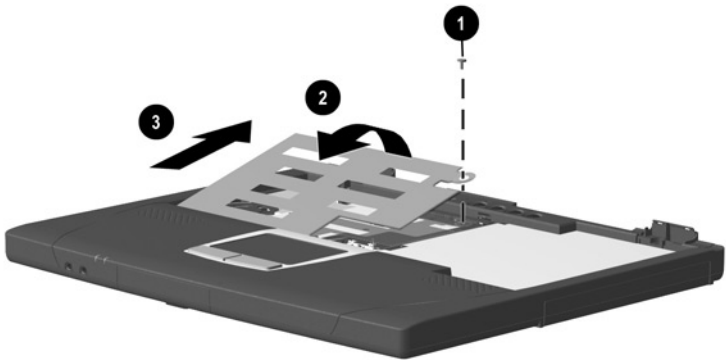

Figure 5-7. Removing the EMI Shield
2. Remove the black M2 × 12.5 screw ❶ that secures the EMI shield to the base enclosure (Figure 5-7).
3. Lift the back edge of the EMI shield up and swing it forward ❷, then slide the EMI shield toward the back of the computer at a 45-degree angle ❸.